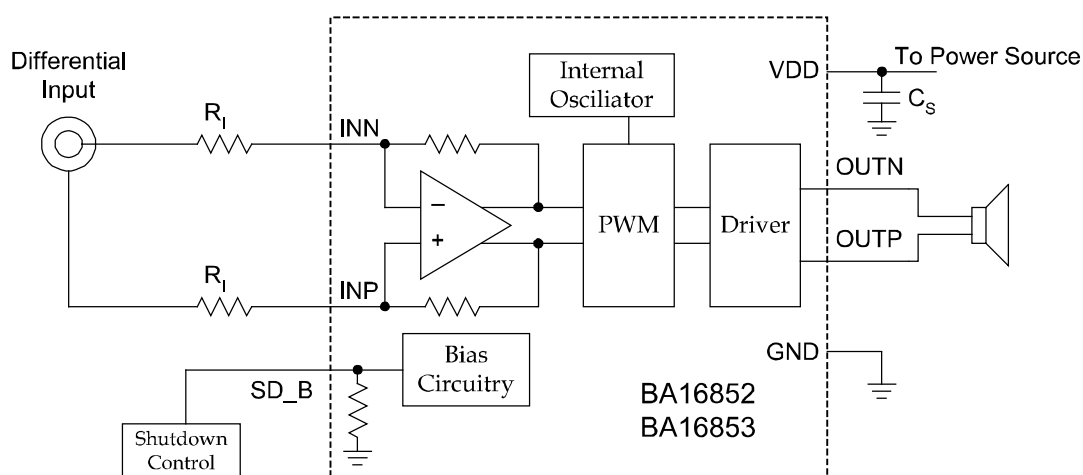

Figure 27. Differential Input Configuration
The BA16852 / BA16853 can be used in many different circuit configurations. The simplest and best performing is the DC coupled, differential input configuration show in Figure 27. The resistor R_I can set the amplifier output gain. Set the gain of the amplifier according to Equation (1).